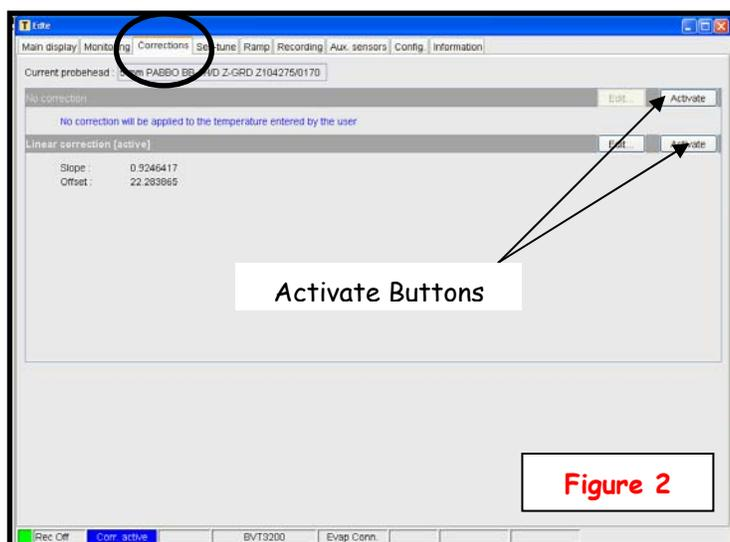

Figure 2
- (1) Insert your sample into the magnet and then replace the black plastic cap over the bore of the magnet. Remember to use the ceramic spinner if you plan to go above 50°C.
- (2) Lock and shim as normal and acquire a room temperature spectrum to ensure your sample is what you expect.
- (3) Open the edte software by simply typing "edte" in the Topspin command line.
- (4) Provided you are using the ceramic spinner, increase the air flow to 1200 l/h (for the blue plastic spinners, use 670 l/h). While increasing the air flow, monitor the lock level and ensure it remains stable. If a sudden drop in level occurs (meaning the sample has likely lifted), decrease the flow by one setting.
- (5) Select the "Corrections" tab. You will see an interface like that in **Figure 2**. On the right hand side, there are two Activate buttons. Click the top one to turn off a correction to the set temperature.
- (1) When your NMR experiments are complete, adjust the target temperature to 300 K.
- (2) Remove the black plastic cap from the bore of the magnet and eject your sample. Replace the cap.
- (3) Adjust the air flow to 1200 l/h.
- (4) You should now have at least another 1/2 hour of time signed out in FACES for the system to re-equilibrate thermally. You and only you are responsible to have the probe at room temperature before the next person uses the spectrometer! You can determine if equilibrium has been re-established by turning the air flow to 0 l/h and making sure the temperature does not rise.
- (5) Select the "Corrections" tab and click the bottom Activate button to turn a correction to the set temperature back on (see **Figure 2**).